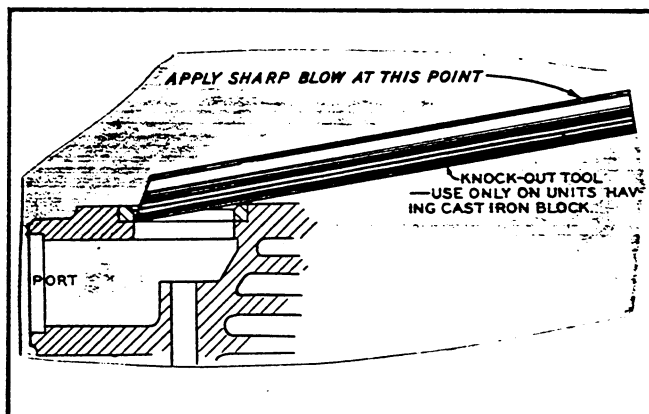

FIG. 20 - VALVE SEAT REMOVAL
2. Insert the knockout tool under the port side of the valve seat, as shown in Fig. 20. The outer end of the knockout tool should extend over the cylinder bore, and the sharp edge of the knockout tool at the joint between the seat and its recess in the cylinder block.